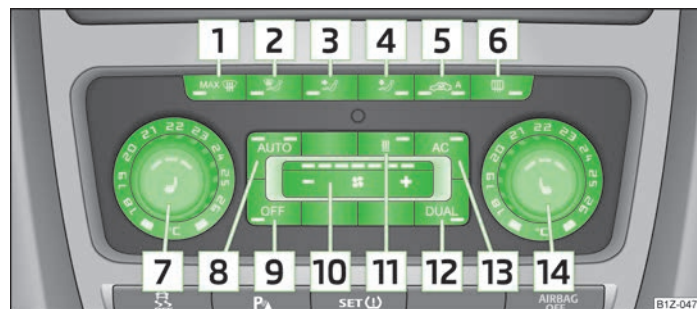

Fig. 90 Climatronic: Control elements
- > (AC) [13] » Fig. 90 on page 85 switched on.
- > Press the button (AUTO) [8] » Fig. 90 on page 85.
- Press the button (AUTO) **8** » Fig. 90 on page 85. The warning light in the top right or left corner lights up, depending on which mode was last selected.
If the warning light in the top right corner of the button (AUTO) **8** » Fig. 90 on page 85 lights up, the Climatronic operates in "HIGH" mode. The "HIGH" mode is the standard setting of the Climatronic.
- Press the button (AC) **13** » Fig. 90 on page 85. The warning light in the button lights up.
- When you again press the button (AC) **13**, the air conditioning system is switched off. The warning light in the button goes out. Only the function of the ventilation remains active when no lower temperature than the outside temperature can be reached.
- The temperature for both sides can be set with the control dial **7** » Fig. 90 on page 85 after switching on the ignition.
- If you wish to set the temperature for the right side, turn the control dial **14** » Fig. 90 on page 85. The warning light in the button (DUAL) **12** » Fig. 90 on page 85 lights up, this indicates that differing temperatures for the left and right side can be set.
If the warning light in the button (DUAL) **12** » Fig. 90 on page 85 is illuminated, the temperature for both sides cannot be set with the control dial **7** » Fig. 90 on page 85. You can reactivate this function by pressing the button (DUAL) **12**. The warning light in the button goes out.
➤ Repeatedly press the button  **5** » Fig. 90 on page 85 until the warning light on the left side of the button is illuminated.
➤ Repeatedly press the button  **5** » Fig. 90 on page 85 until the warning light on the right side of the button is illuminated.
➤ If the air quality sensor does not automatically switch on the air distribution control in the event of an unpleasant odour, you can switch it on yourself by pressing the button  **5** » Fig. 90 on page 85. The warning light lights up in the button on the left side.
➤ Press the button  **8** » Fig. 90 on page 85 or repeatedly press the button  **5** » Fig. 90 on page 85 until the warning lights in the button go out.
- If the windscreen mists up, press the button  **1** » Fig. 90 on page 85. Press the button  **8** » Fig. 90 on page 85 when the windshield is demisted.
➤ Repeatedly press the button  **10** » Fig. 90 on page 85 on the left side (reduce blower speed) or on the right side (increase blower speed).
The set blower speed is displayed above the button  **10** » Fig. 90 on page 85 when the respective number of warning lights come on.
➤ Press the button  **1** » Fig. 90 on page 85.
➤ Once again press the button  **1** » Fig. 90 on page 85 or the button .